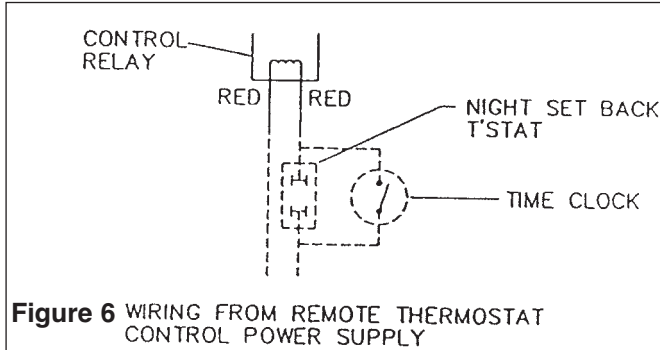

Figure 6 WIRING FROM REMOTE THERMOSTAT CONTROL POWER SUPPLY
3. For night setback operation, refer to wiring diagram in Figure 6.